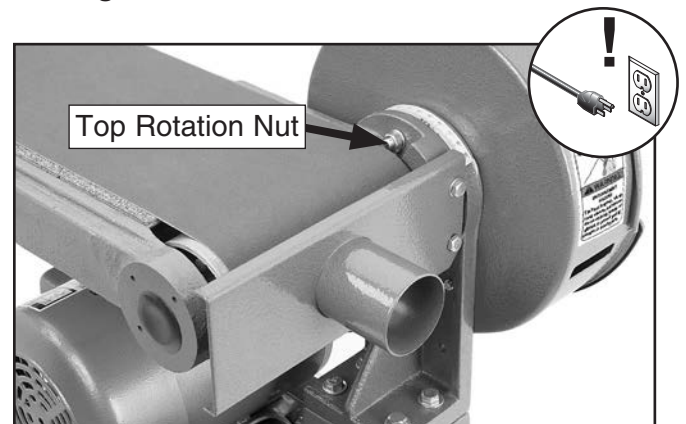

Figure 61. Location of top rotation lock nut.
5. Loosen the sanding frame rotation lock nuts (behind the sanding disc cover) as shown in **Figures 61–62**.